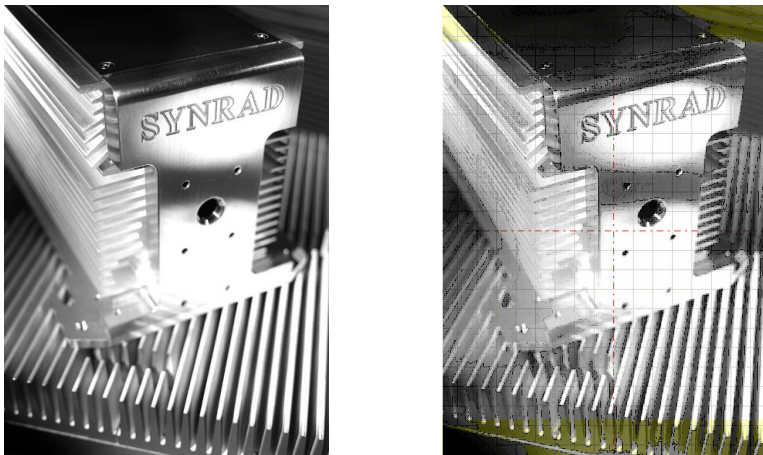

Figure 16-24 8-bit black and white image versus 8-bit Grayscale reduction
Choose *Grayscale* (Figure 16-24) to convert color bitmaps into 8-bit grayscale images (an 8-bit grayscale image provides 256 levels of gray ranging from 0–white to 255–black). For Grayscale bitmaps, Power and Min Power Threshold properties on the *Marking* tab set the limits of laser power used to mark black (255) and white (0) pixels respectively.